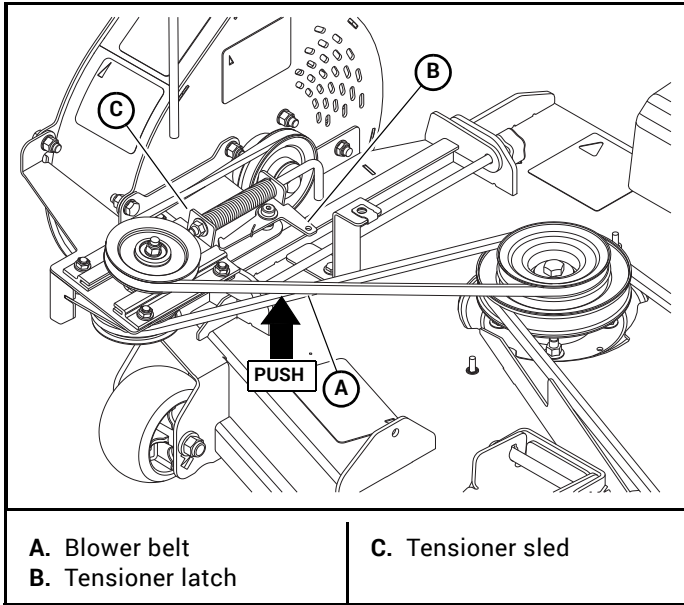

Figure 4-3
2. Push the blower belt towards the blower to engage the tensioner latch on the tensioner sled. Figure 4-3